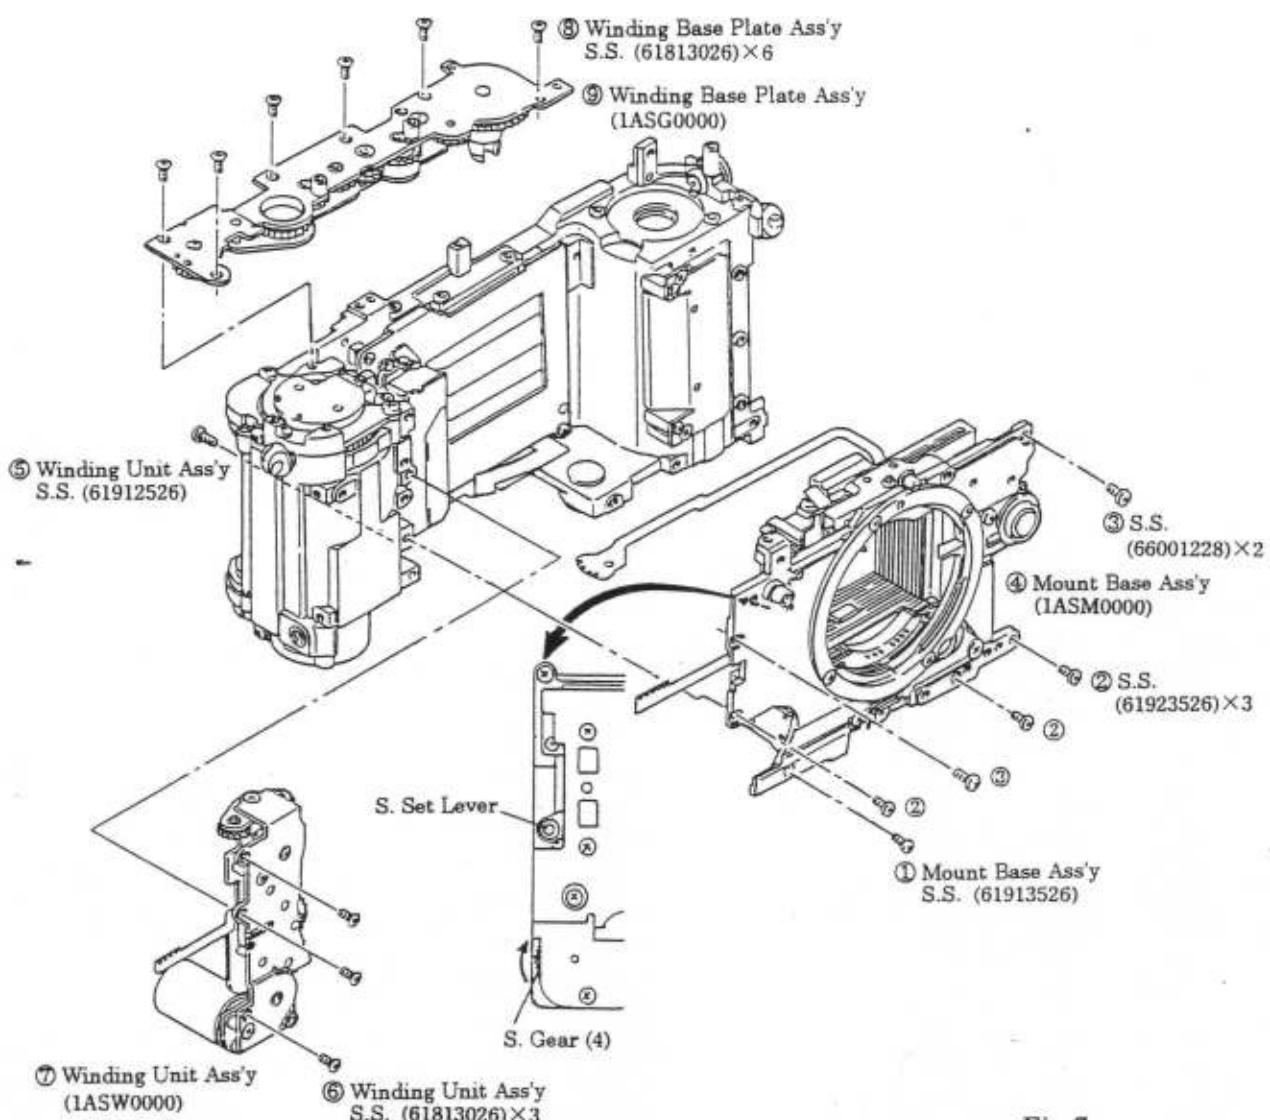

Fig.7
- 1) Remove parts in the numerical order of ① to ⑨ shown in Fig. 7.
- b) Make certain that the S. Set Lever of the S. Set Base Plate Ass'y is in the lower position, and then install the Mount Base Ass'y in the Body. (See Fig. 7) If the S. Set Lever has not been set in the lower position, turn the S. Gear (4) (white gear) clockwise (in the direction of the arrow) to set the S. Set Lever Ass'y in the lower position.